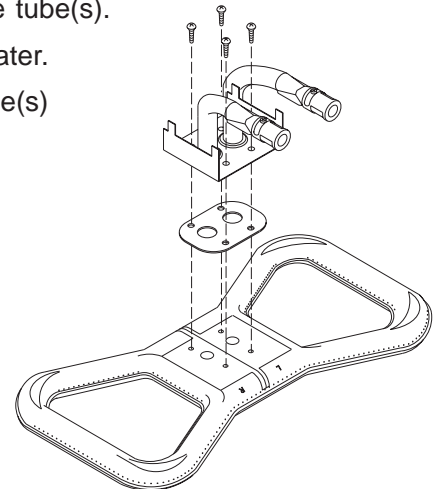

FIGURE 16
3. Lay the burner face down and remove the four retaining screws from the venturi tube plate and the burner. FIGURE 16.